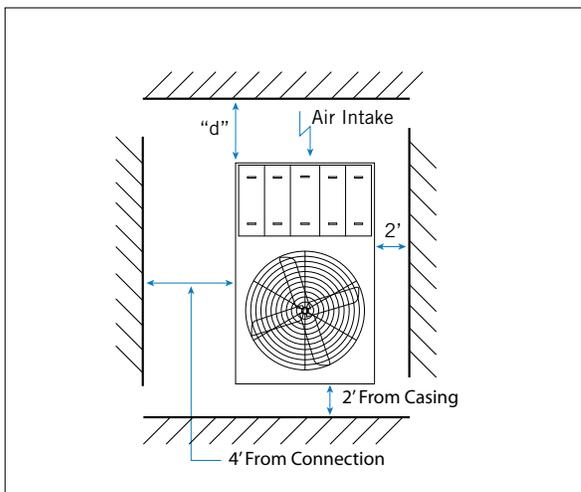

Figure 1: Plan View of Recommended Unit Servicing and Maintenance Spacing for Series 1500 Cooling Towers
4. Provide adequate space around the unit for piping and proper servicing and maintenance, as shown in **Figure 1**.